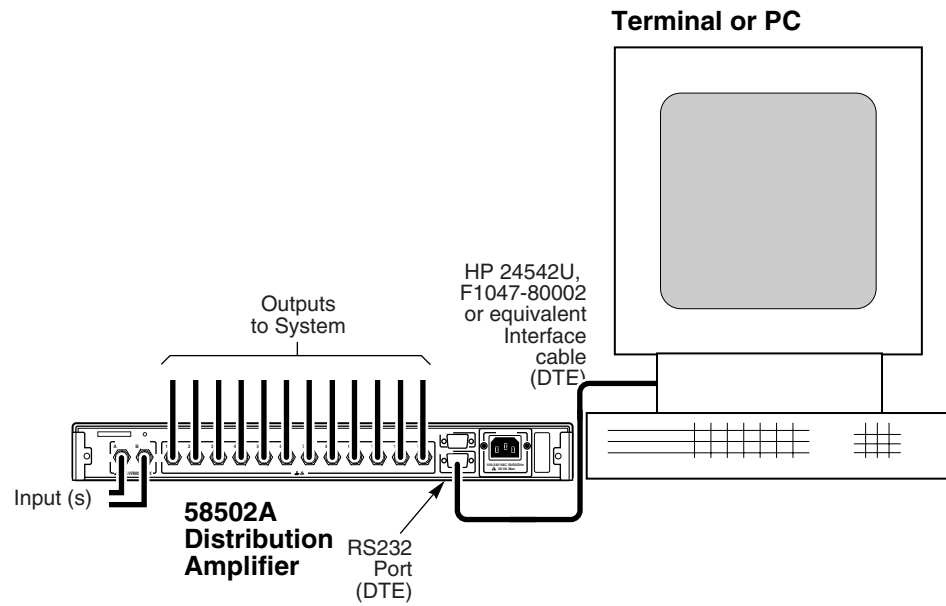

Figure 1-3. Inputs and Outputs Connections For Your System (Terminal or PC is Optional)
- 1 As shown in Figure 1-3 (note that the terminal or computer is optional), connect the 58502A's outputs as required for your application, and provide at least one input at either the input **A** or **B** rear-panel input connector.